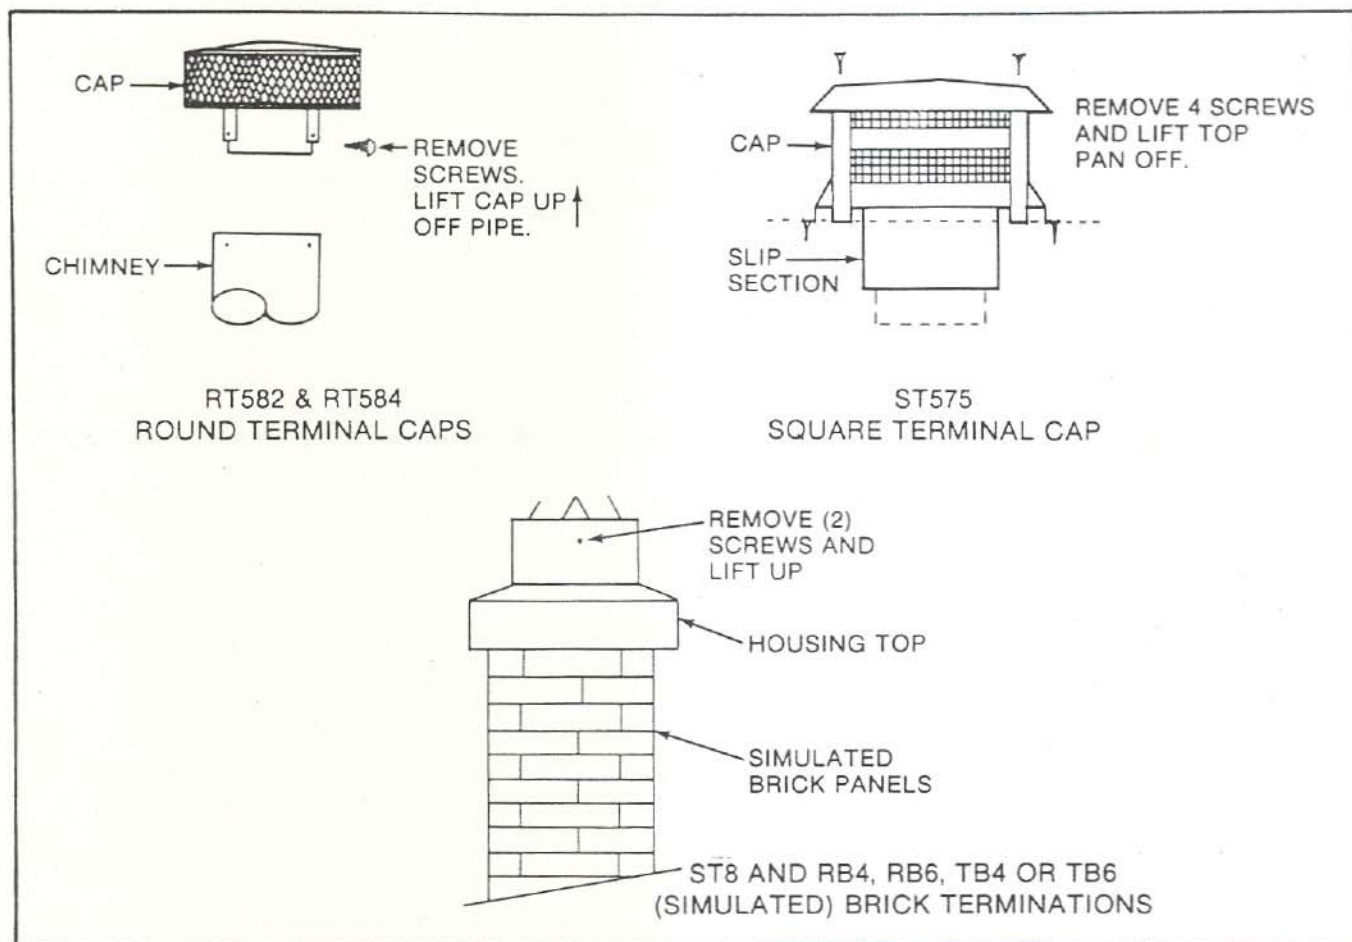

Figure 1
3. Remove Terminal Cap or Housing Top. See Figure 1.